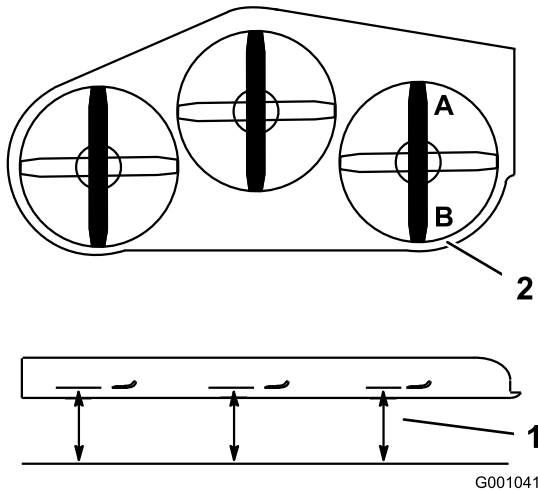

Figure 63
- Position the **right** blade front-to-rear (Figure 63).
- Measure the right blade at the **A** location, from a level surface to the cutting edge of the blade tip (Figure 63).
- Measure the right blade at the **B** location, from a level surface to the cutting edge of the blade tip (Figure 63).
- The mower blade should be a 1/4 to 3/8 inch (6 to 10 mm) lower at position **A** than at position **B** (Figure 63). If it is not correct, proceed to the following steps.